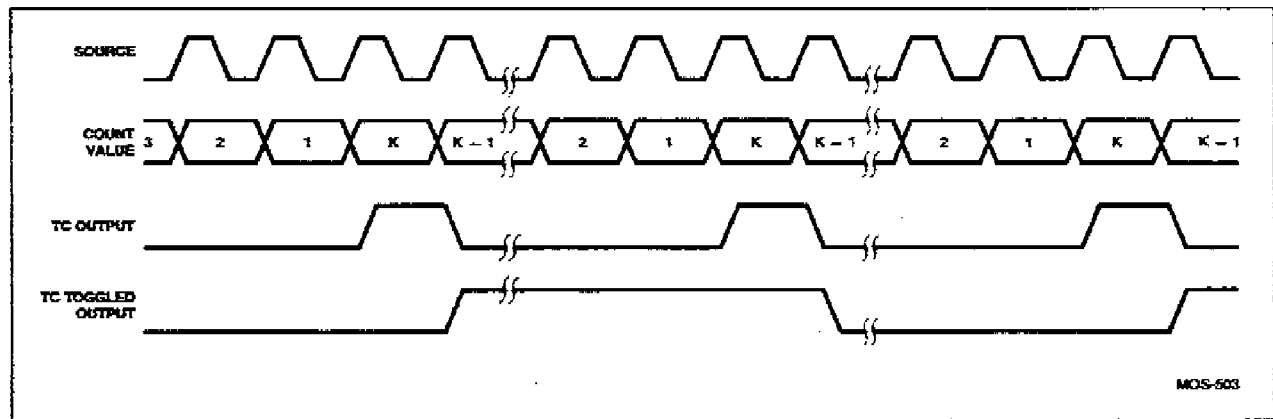

Figure 1-20. Counter Output Waveforms
One output form available is called Terminal Count (TC) and represents the period in time that the counter reaches an equivalent value of zero. TC will occur on the next count when the counter is at 0001 for down counting, at 9999 (BCD) for BCD up counting or at FFFF (hex) for binary up counting. Figure 1-20 shows a Terminal Count pulse and an example context that generated it. The TC width is determined by the period of the counting source. Regardless of any gating input or whether the counter is Armed or Disarmed, the terminal count will go active for only one clock cycle. Figure 1-20 assumes active-high source polarity, counter armed, counter decrementing and an external reload value of K.